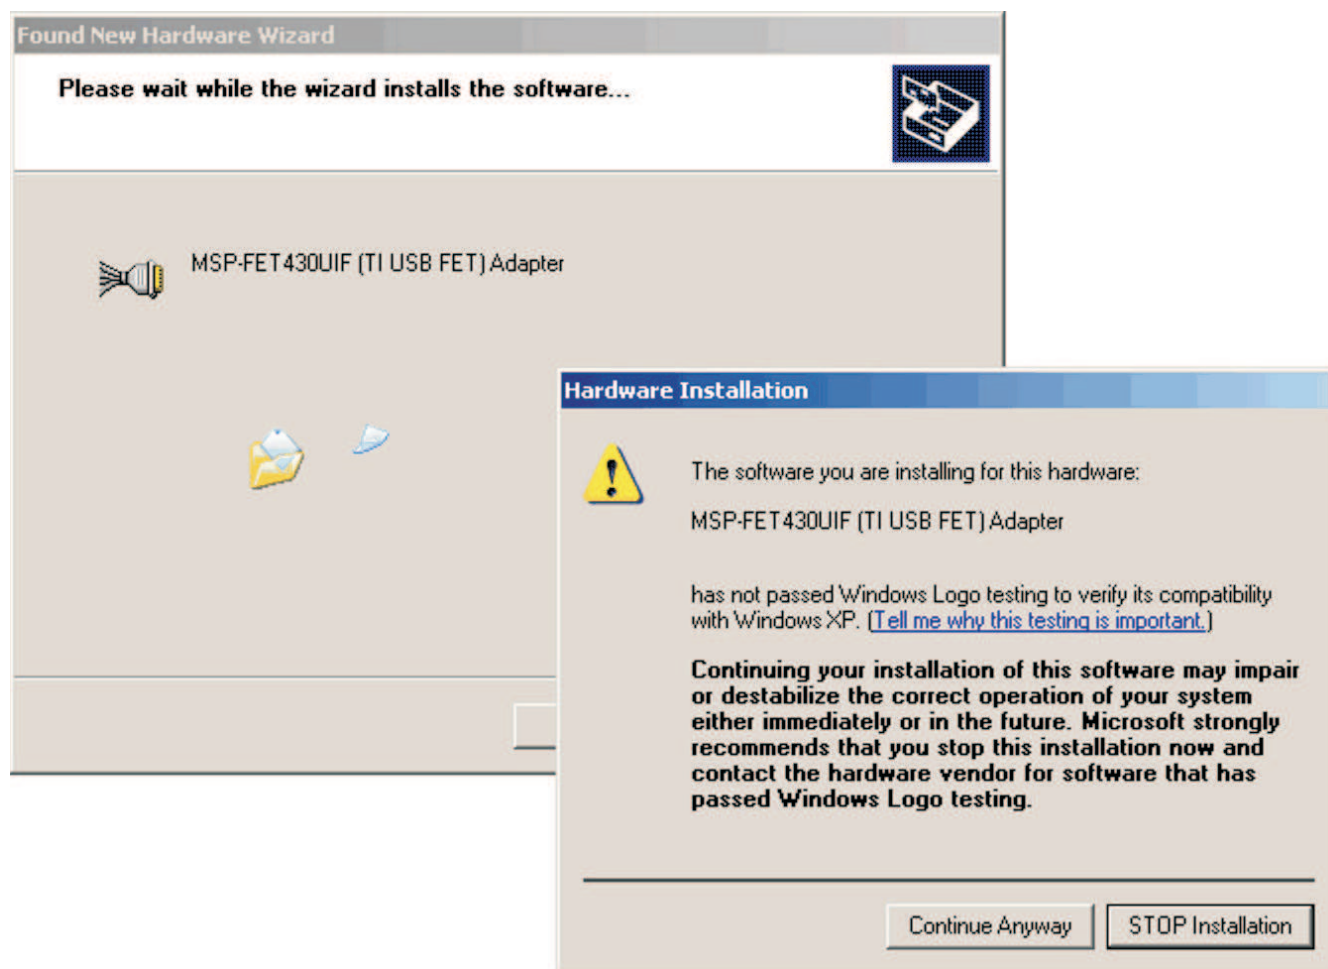

Figure F-4. WinXP Driver Installation
8. Note that WinXP shows a warning that the driver is not certified by Microsoft®. Ignore this warning and click "Continue Anyway" (see Figure F-4).